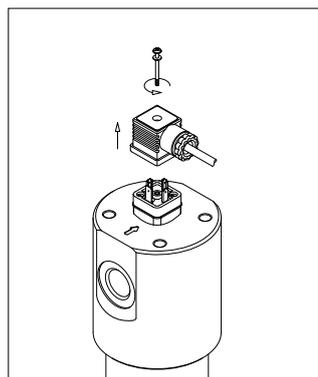
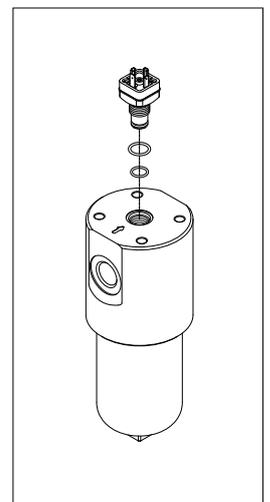

fig. 6
fig. 16
- (Fig. 6) Remove the connector of the differential indicator by unfastening the central screw (only for electrical indicators)
- (Fig. 16) Replace the O-rings of the indicator body. For the mounting/dismounting of the indicator, please refer to the paragraph "Clogging indicator replacement" above (Fig. 6÷9)